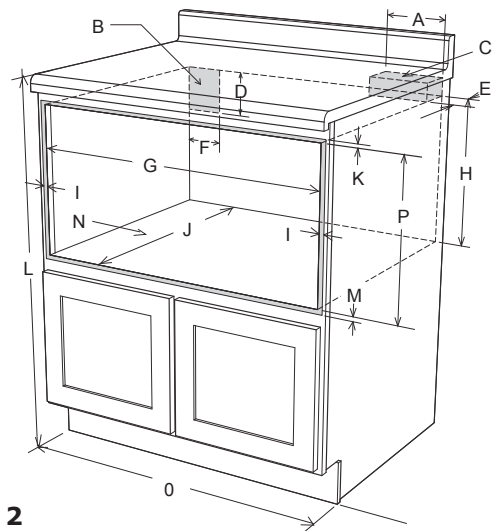
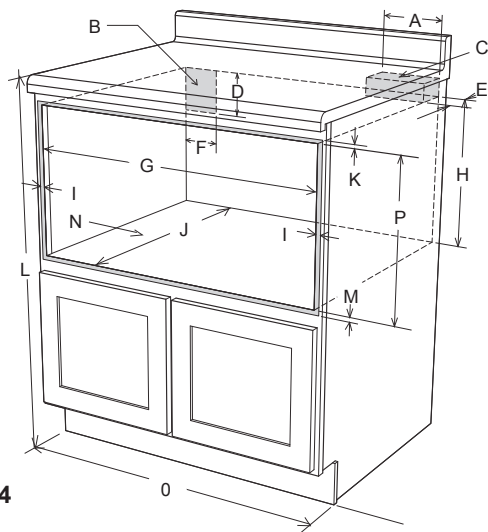
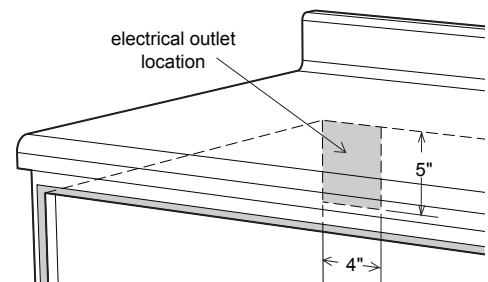

Figure 2
Figure 4
Figure 8
For SAFETY CONSIDERATIONS do not install the drawer in any combustible cabinetry, which is not in accord with the stated clearances and dimensions on pages 3, 4 and 5. See **Figure 2** (for 24") or **Figures 4 and 5** (for 30").
- Dimensions that are shown in **Figures 2, 4** and **5** must be used. Given dimensions provide minimum clearance. Locate the electrical outlet in the shaded area in the upper left-hand corner of the cutout. See **Figure 8**.
To reduce the risk of tipping the drawer, the anti-tip block must be properly installed 14 ¹³/₁₆" above the floor cutout. The 6" anti-tip block must be provided by the installer. See **Figures 2 and 6** for (24") or **Figures 4, 5, and 6** (for 30"). The anti-tip block prevents serious injury that might result from spilled hot liquids.